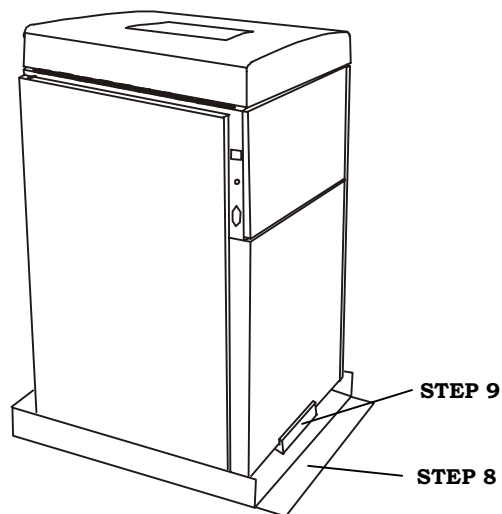

FIGURE A-4
8. Cut the front and back corners of both sides of the shipping package base so that the cardboard will lay flat. See Figure A-4.
10. Tilt the printer slightly from the side where the cardboard was cut and kick the packing block (see figure A-4) out from under the printer. Carefully lower the printer. Repeat to remove the packing block from the opposite side.